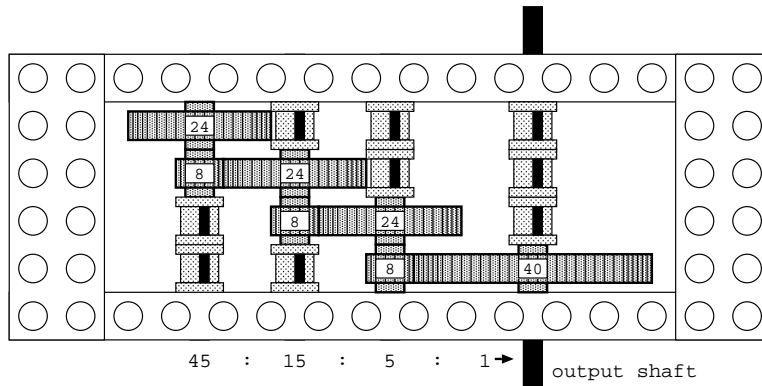

Figure 2: LEGO gearbox
- **Calculating reduction.** The easiest way to calculate gear reduction is to first explain how everything is connected from the gear on the wheel axle to the last meshing gear. For example, with the gear train given in Figure 2 we can say: “There is a 40-tooth gear which meshes with an 8-tooth gear that is on the same axle as a 24-tooth gear, which meshes with an 8-tooth gear that is on the same axle as a 24-tooth gear, which meshes